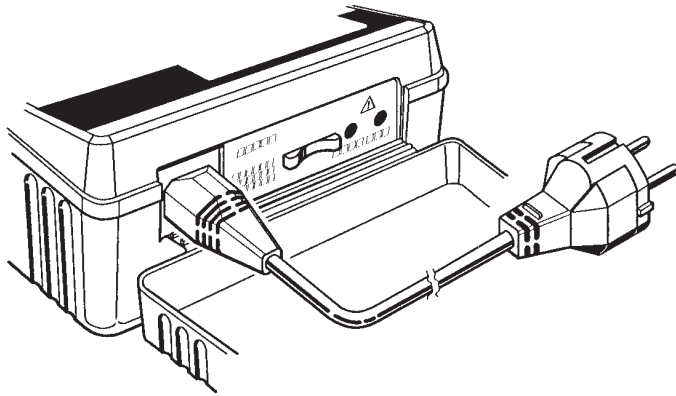

Fig 9
3. If testing sockets, connect the plug lead to the Model 6010A and push the moulded plug into the socket to be tested (see Fig 9).
5. Connect the instrument to the RCD to be tested either via a suitable socket outlet (see fig 9) or using the OMA DIEC test lead set (see fig 10).